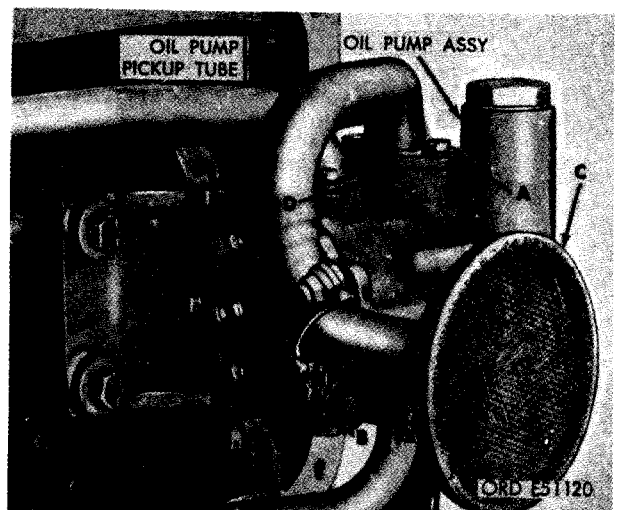

FIGURE 278. REMOVING OR INSTALLING PRESSURE OIL PUMP PICKUP TUBE.
- (1) Figure 278. (A) Remove two 1/4 x 7/8 cap screws and 1/4-inch lock washers securing pressure oil pump pickup tube to pump inlet. (B) Remove one 1/4 x 3 cap screw and 1/4-inch lock washer securing pickup tube to pump cover. (C) Remove pressure oil pump pickup tube. (D) Remove and discard pressure oil pump pickup tube gasket.